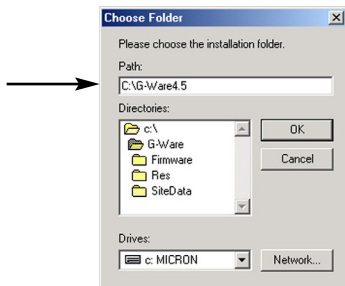

Figure 5.15. Creating a directory for G-Ware 4.5
2. Load G-Ware 4.5 in a unique directory (path), as shown in Figure 5.15. Do not select "Add Icon to Desktop" when you are asked if you want to do so during the installation process.